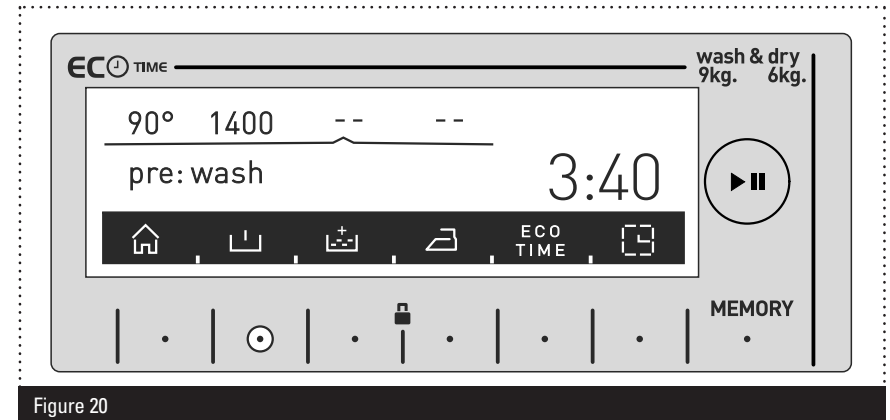

Figure 20
- » Press the **↓** button to activate the pre-wash additional function. The screen shown in fig 20 will appear.